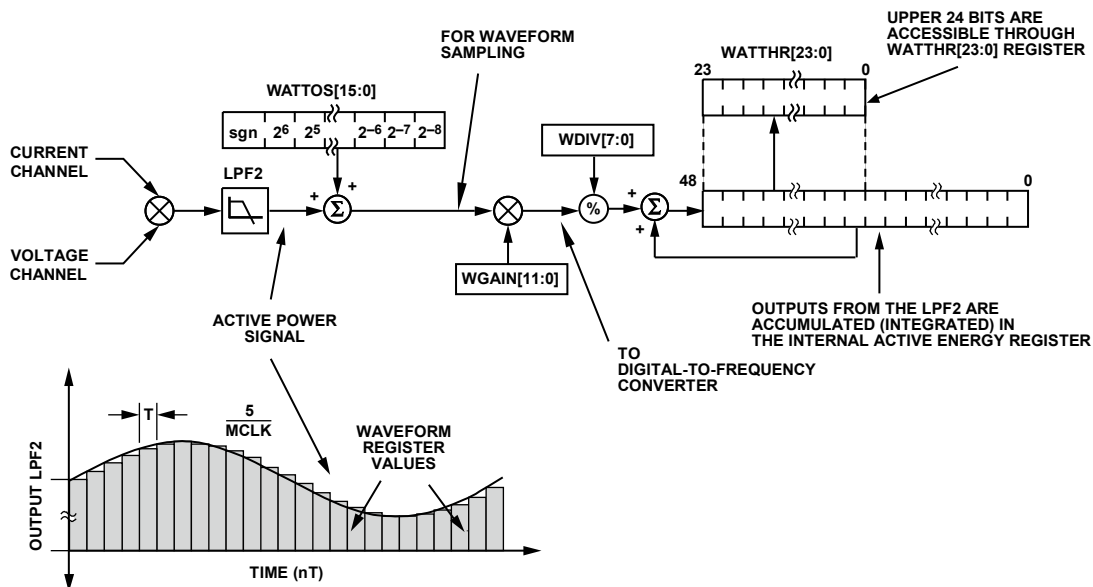

Figure 44. Active Energy Calculation
Figure 44 shows the signal processing chain for the active power calculation in the ADE5166/ADE5169/ADE5566/ADE5569. As explained previously, the active power is calculated by filtering the output of the multiplier with a low-pass filter. Note that when reading the waveform samples from the output of LPF2, the gain of the active energy can be adjusted by using the multiplier and watt gain register (WGAIN[11:0]). The gain is adjusted by writing a twos complement 12-bit word to the watt gain register. Equation 10 shows how the gain adjustment is related to the contents of the watt gain register.
The discrete time sample period (T) for the accumulation register in the ADE5166/ADE5169/ADE5566/ADE5569 is 1.22 μ s (5/MCLK). In addition to calculating the energy, this integration removes any sinusoidal components that may be in the active power signal. Figure 44 shows this discrete time integration or
The output of the multiplier is divided by the value in the WDIV register. If the value in the WDIV register is equal to 0, the internal active energy register is divided by 1. WDIV is an 8-bit unsigned register. After dividing by WDIV, the active energy is accumulated in a 49-bit internal energy accumulation register. The upper 24 bits of this register are accessible through a read to the active energy register (WATTHR[23:0]). A read to the RWATTHR register returns the content of the WATTHR register, and the upper 24 bits of the internal register are cleared. As shown in Figure 44, the active power signal is accumulated in an internal 49-bit signed register. The active power signal can be read from the waveform register by setting the WAVMODE register (0x0D) and setting the WFSM bit in the Interrupt Enable 3 SFR (MIRQENH, 0xDB). Like the current and voltage channels waveform sampling modes, the waveform data is available at sample rates of 25.6 kSPS, 12.8 kSPS, 6.4 kSPS, or 3.2 kSPS.